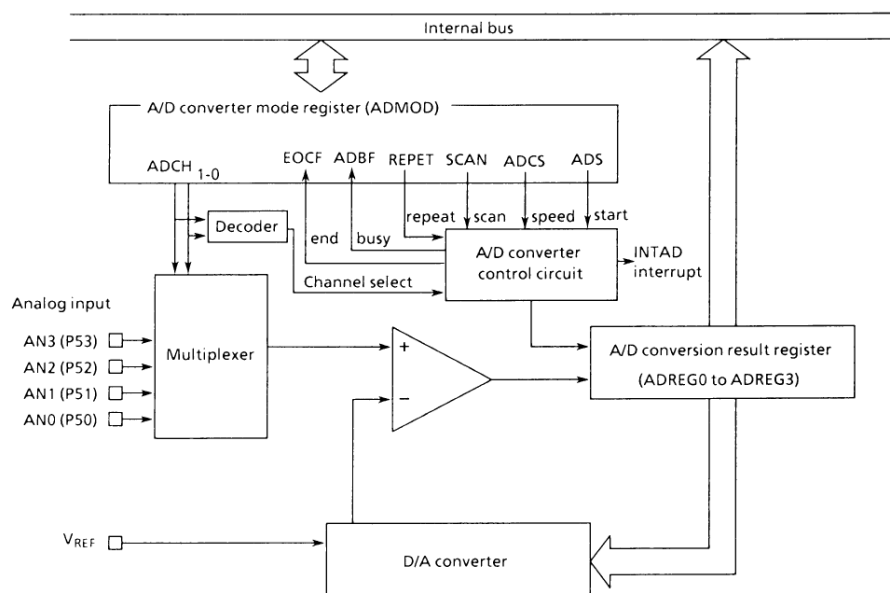

Figure 3.11 (1). Block Diagram of A/D Converter
Figure 3.11 (1) shows the block diagram of the A/D converter. The 4-channel analog input pins (AN3 to AN0) are shared by input-only P5 and so can be used as input port.